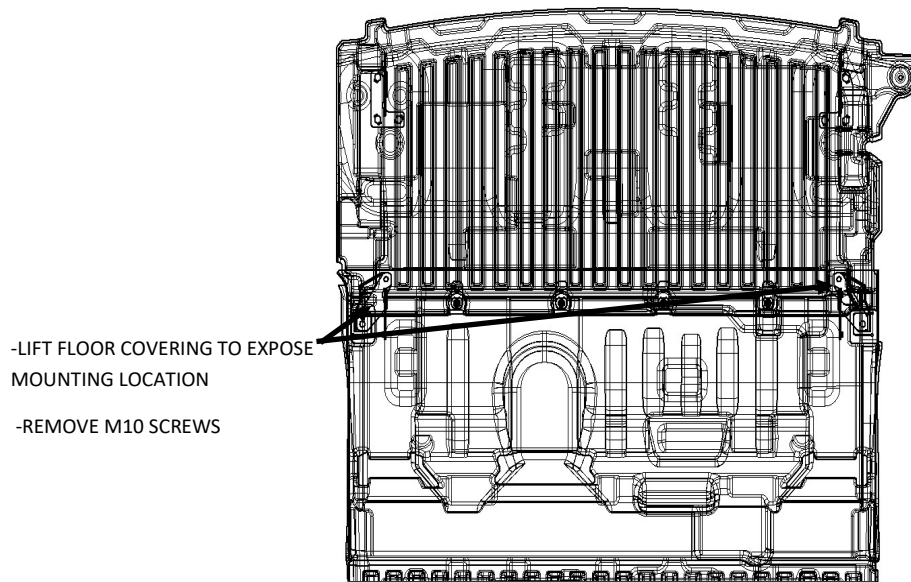

Figure 1
2. Remove OEM M10 bolts where side brackets and front panel will mount as shown in Figure 1.